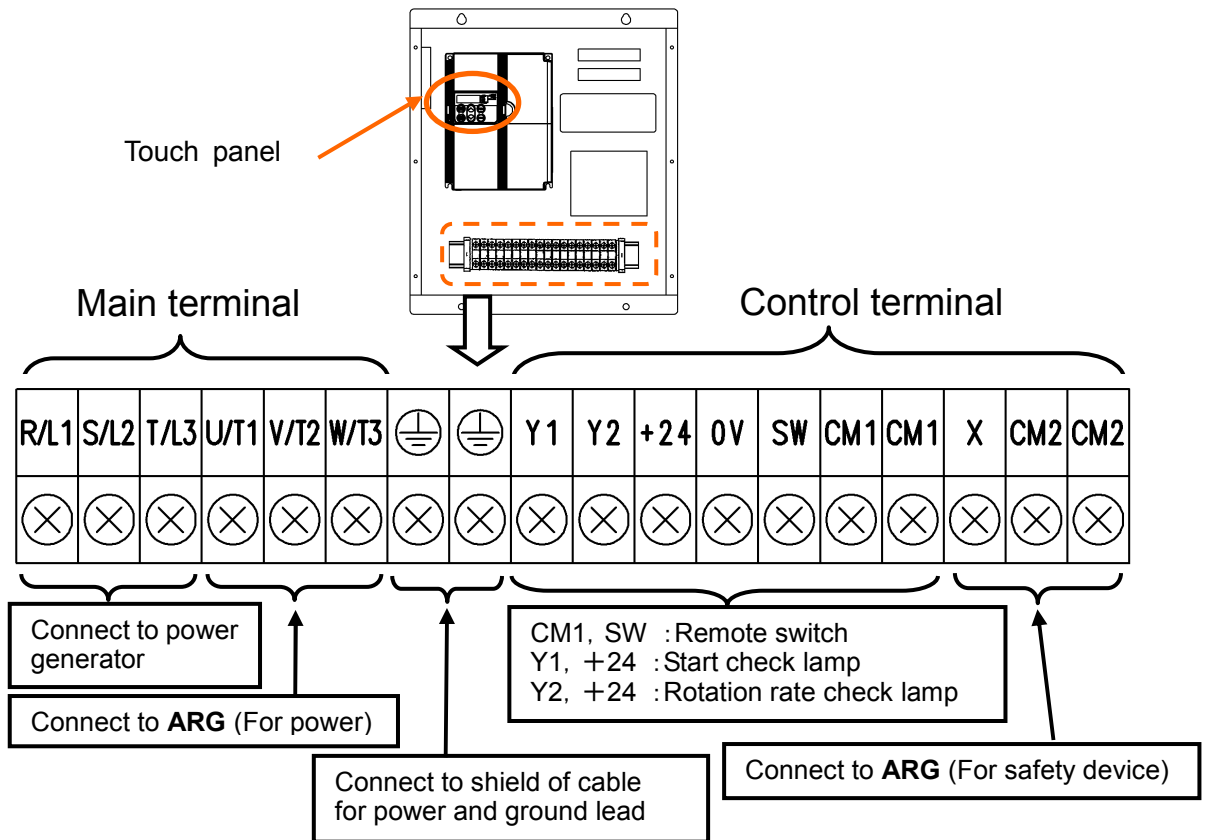

Figure 4-16 Terminal arrangement of the Motor Driver
Please see Figure 4-16 for the location of the connecting terminals.
- ③ After removing the lid, there are terminal board with a safety cover as shown in Figure 4-16